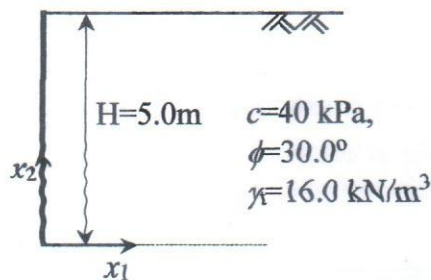

Fig.2
- 5(a) Derive the expression of active earth pressure for $c - \phi$ soil by lower bound theory using Mohr-Coulomb failure criteria. (12)
- (b) Answer the following questions corresponding to the retaining structure shown in Fig.2. (13)